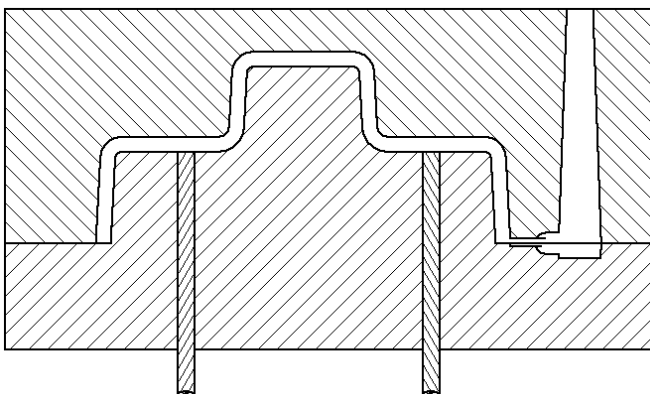

Figure 1-4: An edge gate.
- ✓ **Edge:** *Edge gates* port plastic into the cavity through the edge of the part (see Figure 1-4). Injecting the plastic through the edge leaves the runner and the part connected when the process is complete. It's easy to trim or break the part off the runner, but an edge gate leaves a small imperfection called a *vestige*.